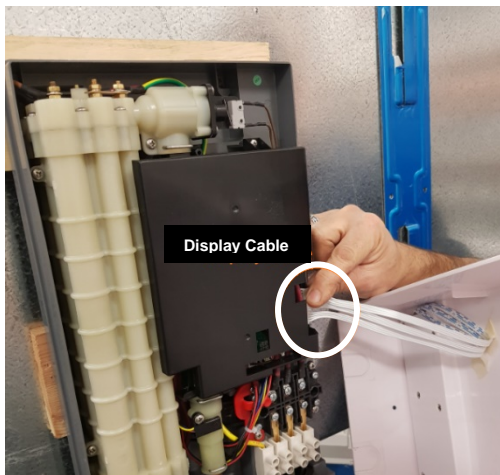

Figure 1: Removing Display Cable
- b) Carefully disconnect the display cable on the side as shown in **Figure 1** on page **20**.